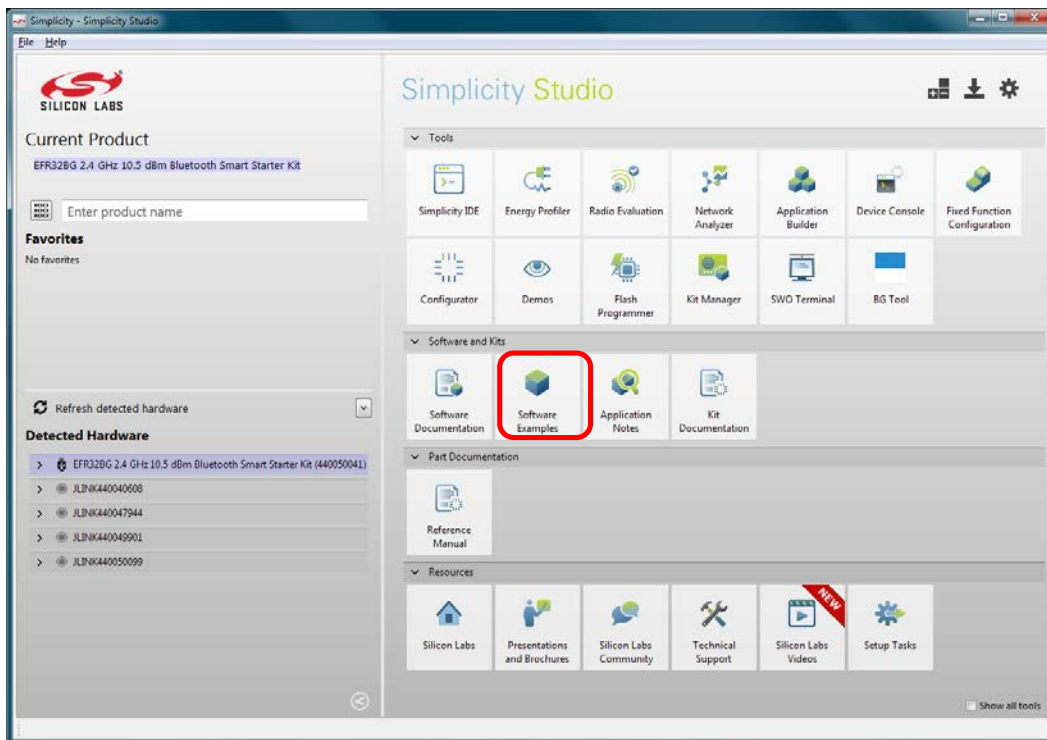
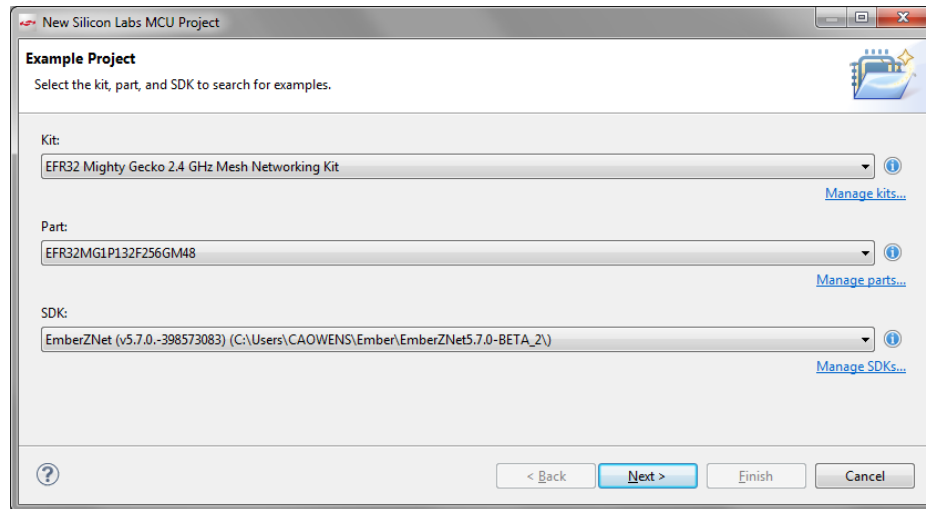

Figure 17. Software Examples Tile
Figure 18. New Example Project Dialog
1. In the Simplicity perspective, click the Software Examples tile (Figure 17).
- In the New Example dialog (Figure 18), enter the kit, part, and SDK. Kit and part will be filled by Simplicity Studio if the hardware was detected and displayed in the Simplicity perspective (Figure 17).